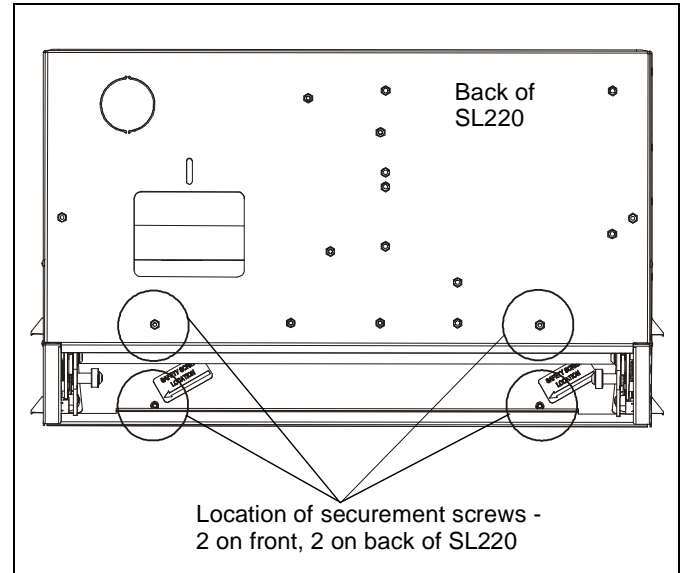

Figure 2
2. Insert and fasten 08-32 x 1" Phillips head screws (E), as required. (See Figure 2)